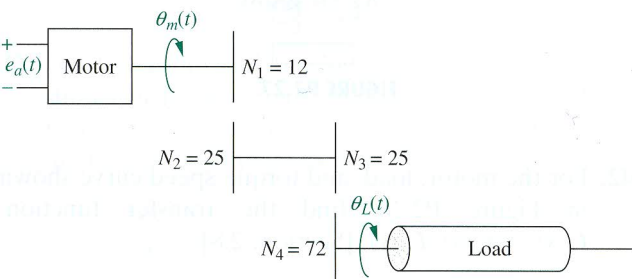

FIGURE P2.30
44. A dc motor develops 55 N-m of torque at a speed of 600 rad/s when 12 volts are applied. It stalls out at this voltage with 100 N-m of torque. If the inertia and damping of the armature are  $7 \text{ kg-m}^2$  and  $3 \text{ N-m-s/rad}$ , respectively, find the transfer function,  $G(s) = \theta_L(s)/E_a(s)$ , of this motor if it drives an inertia load of  $105 \text{ kg-m}^2$  through a gear train, as shown in Figure P2.30. [Section: 2.8]